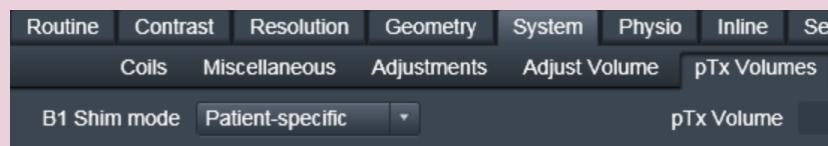

Figure 14. Location of the “B1 shim mode” switch
- Set the **B1 shim mode** by going to *System > pTx Volumes* and set the *B1 Shim mode* to *Patient-specific*. See Figure 14.